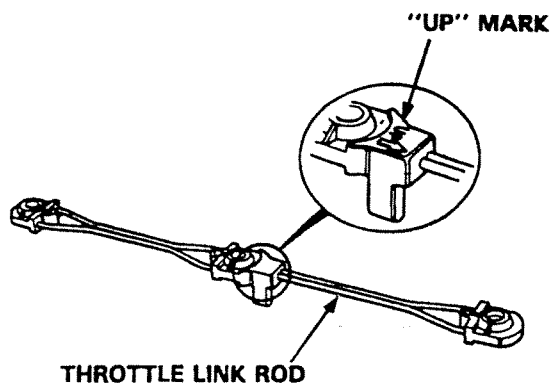

Fig. 32-15. Throttle Link Marking
1. Assemble the 6mm plain washer (10) to the 6 x 28mm bolt (9) followed by the choke arm.
2. The choke-control arm and choke-rod assembly (12) should then be installed followed by the 6.15 x 10.5 x 16mm collar (13) and 6mm plain washer (14).
4. Tighten the 6 x 28mm bolt (9) to a torque of 9 ft/lbs.
5. Install the throttle link rod to the carburetors with the 'UP' and arrow at the center of the rod facing upwards (Fig. 32-15).